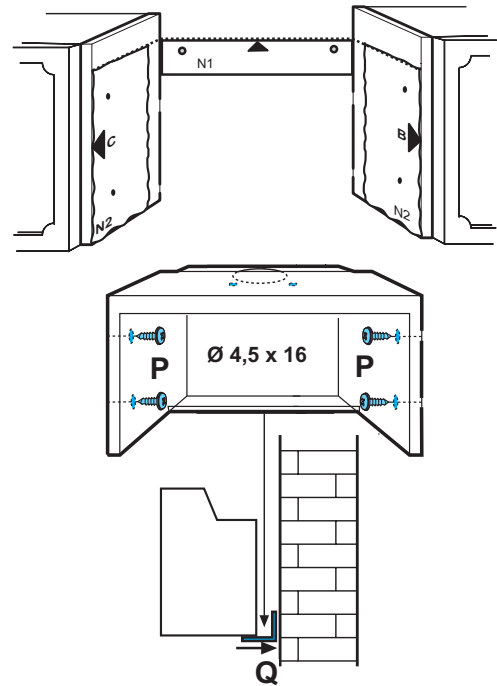

Fig. 13
- Use template **N2**. Position the template on the front edges of the wall unit (right wall unit, B side) – (left wall unit, C side) **WITHOUT CONSIDERING THE THICKNESS OF THE FRONT WALL UNIT DOORS**, and make the holes as indicated. **Fig. 13**
- Fix the hood to the side wall units with 4 screws **P**. **Fig. 13**